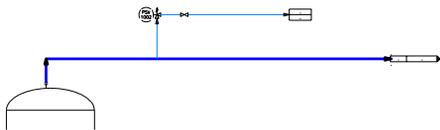

Figure 2-87 Location of utility connector and off page connector
- Choose the **Utility Connector** tool from the **Off Page Connectors and Tie-In Symbol** area of the **Non-engineering** tab of the **TOOL PALETTES - P&ID PIP** and place them at the locations shown in Figures 2-87 and 2-88.